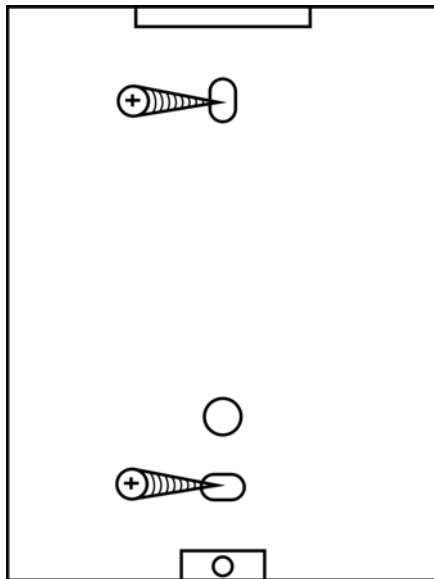

Figure1
**8.1.1** On the wall of the aperture size machine on the pan is playing well with a hole, or installed 2 existing junction box plus connecting.(Figure 1)